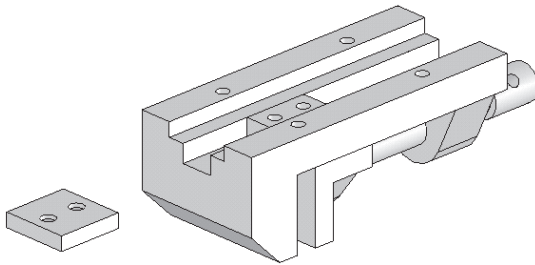

Figure 12-69 Rotated assembly
- g. Next, assemble the Clamping Plate, refer to Figures 12-69 through 12-72.
2. Rotate the assembly such that the bottom face of the assembly is displayed, as shown in Figure 12-69.